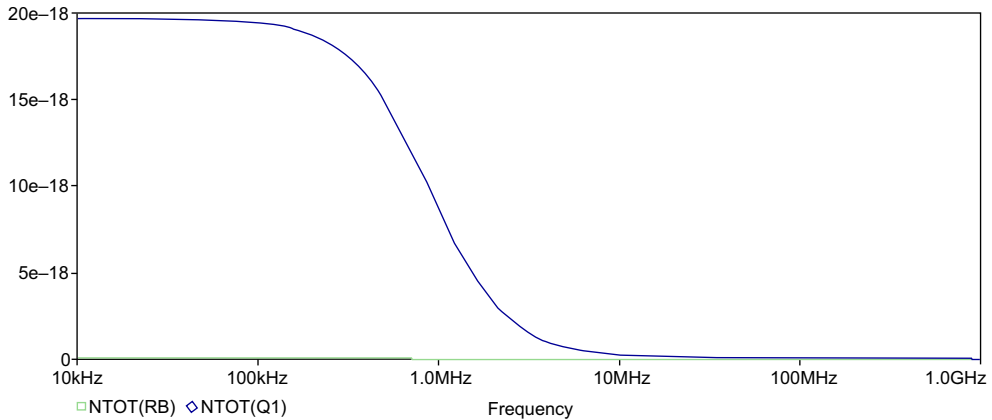

FIGURE 14.7
8. Delete all the traces, **Trace > Delete All Traces**, and add the noise trace for the base resistor NTOT(RB) and the total noise trace for Q1, NTOT(Q1). As you can see in Figure 14.7, the transistor contributes the greatest noise in the circuit.